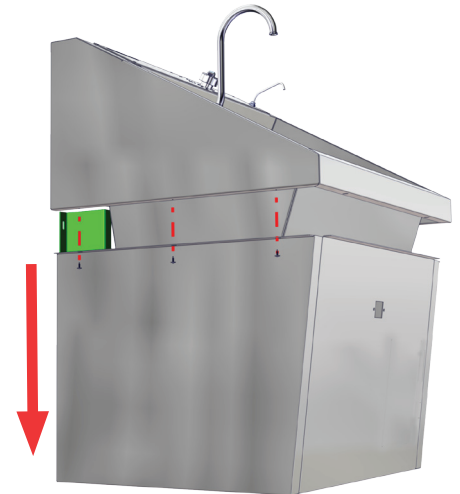

Fig. 10: Remove old base
9. Then carefully lower the old sink base to the floor and remove (Fig. 10).